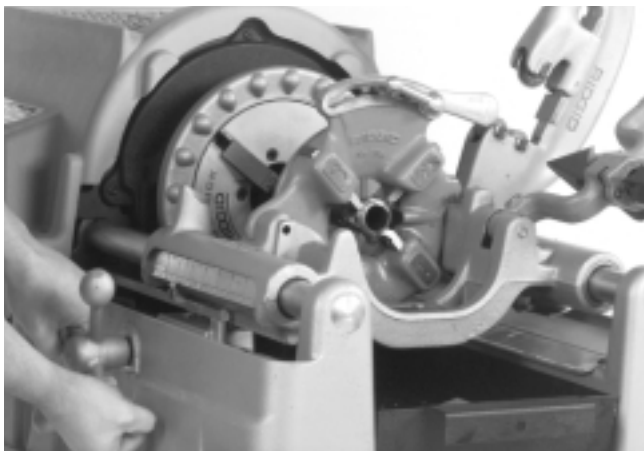

Figure 8 – Threading with 535 Manual Threading Machine
5. Turn carriage handwheel to bring dies against end of pipe. Slight pressure on handwheel will start dies. (Figure 8)
1. Depress handle so that camplate rests (*Figure 8 – Model 816/817 Die Head*) against the stop. (As shown).